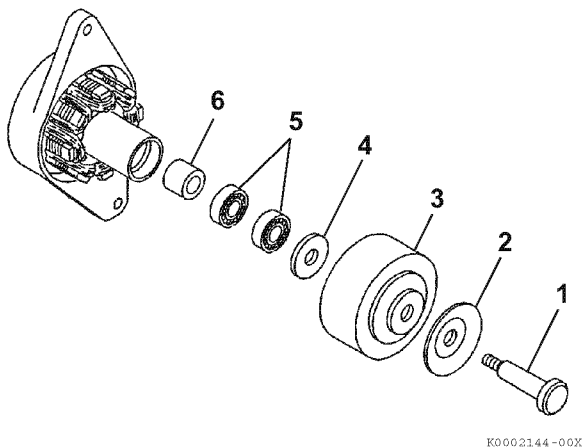

Figure 11-25
3. Remove the through-bolt (Figure 11-25, (1)), pulley half (Figure 11-25, (2)), flywheel (Figure 11-25, (3)), flat washer (Figure 11-25, (4)), bearings (Figure 11-25, (5)) and spacer (Figure 11-25, (6)).